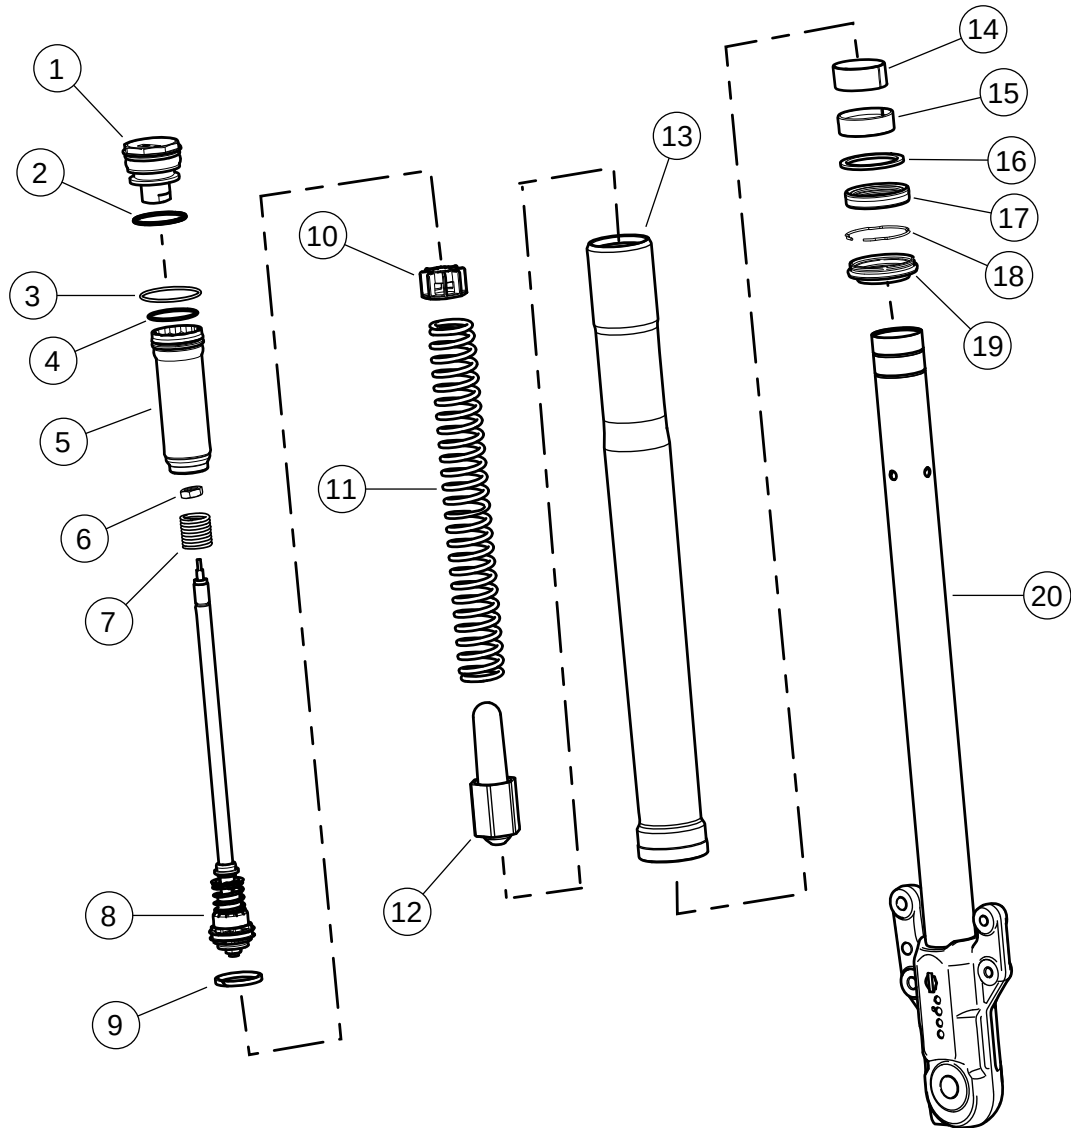

**Figure 2-150. Remove the Upper Spring Collar and the Spring**
1. See Figure 2-150. Drain the oil into a pan. Remove: